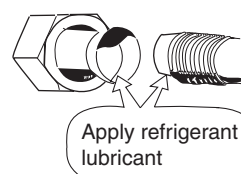

Fig. 5-4
- (1) Apply a sealing cap or water-proof tape to prevent dust or water from entering the tubes before they are used.
- (2) Be sure to apply refrigerant lubricant to the matching surfaces of the flare and union before connecting them together. This is effective for reducing gas leaks. (Fig. 5-4)